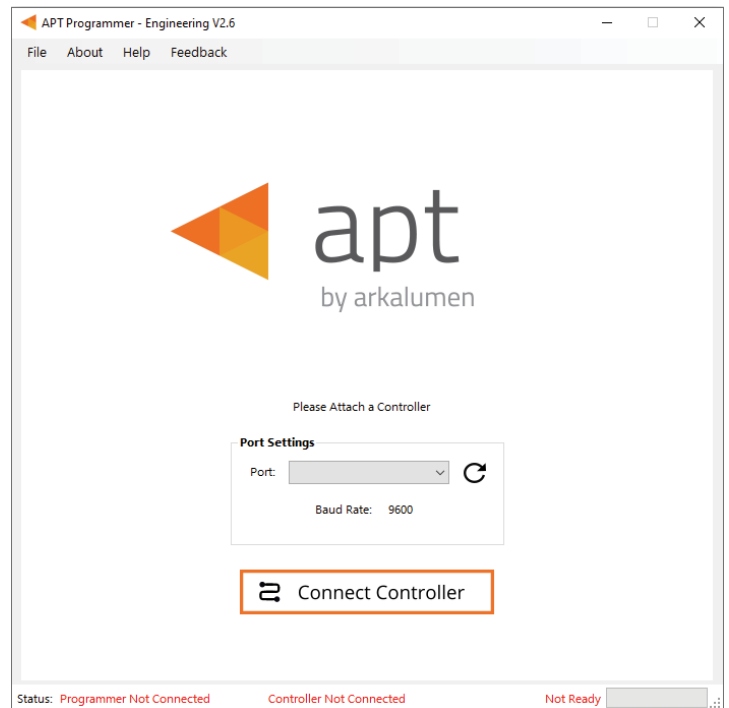

Figure 2: Programmer Connect window
1. Launch the APT Programmer Interface software by selecting the application, **APT Programmer Interface** , from the Start Menu. The Programmer Connect window (shown in Figure 2) will open.